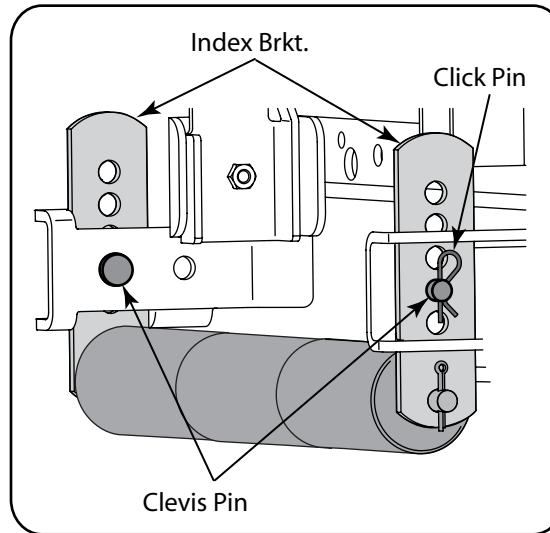

Figure 14
- While supporting the roller assembly, remove click pin and withdraw the clevis pin from both the left and right roller index brackets. See Figure 14.
- Align the nearest index bracket holes with the holes in the deck mounting brackets. Insert the clevis pins through the deck brackets and the index brackets and secure with the click pins. See Figure 14.